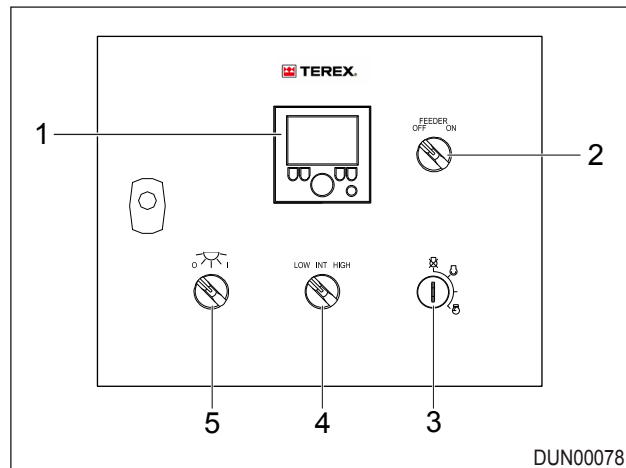

Figure 4.22 - Control Panel
(1) MCU300 Control Panel
The main hydraulic control panel, fitted at ground level, has all the controls centrally located. This allows the operator to quickly and easily optimize production preventing unnecessary downtime. There is a display screen (item 1) on the control panel which indicates the current state of the machine, Ref: Figure 4.22.